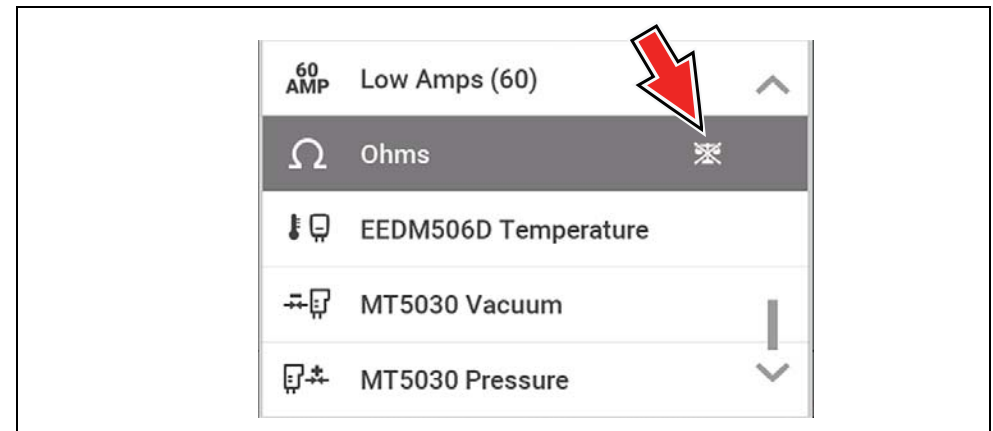

Figure 9-12
*During an ohms test or a pressure test, a manual probe recalibration can be initiated by selecting the probe icon from the Control Panel to open the probe menu. Then select either the **Ohms** or **Pressure (100, 500, 5000)** items from the probe menu. The menu selections will display a graphic of a balance scale with an “X” through it (on right side) to indicate that probe is not calibrated (Figure 9-12).*